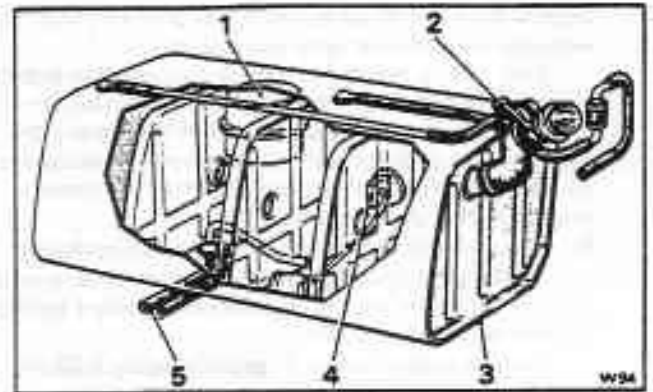

Fig. K2-1 Fuel tank assembly
12. Unscrew the worm drive clip securing the rubber filler neck hose to the fuel tank (see fig. K2-1); withdraw the hose.